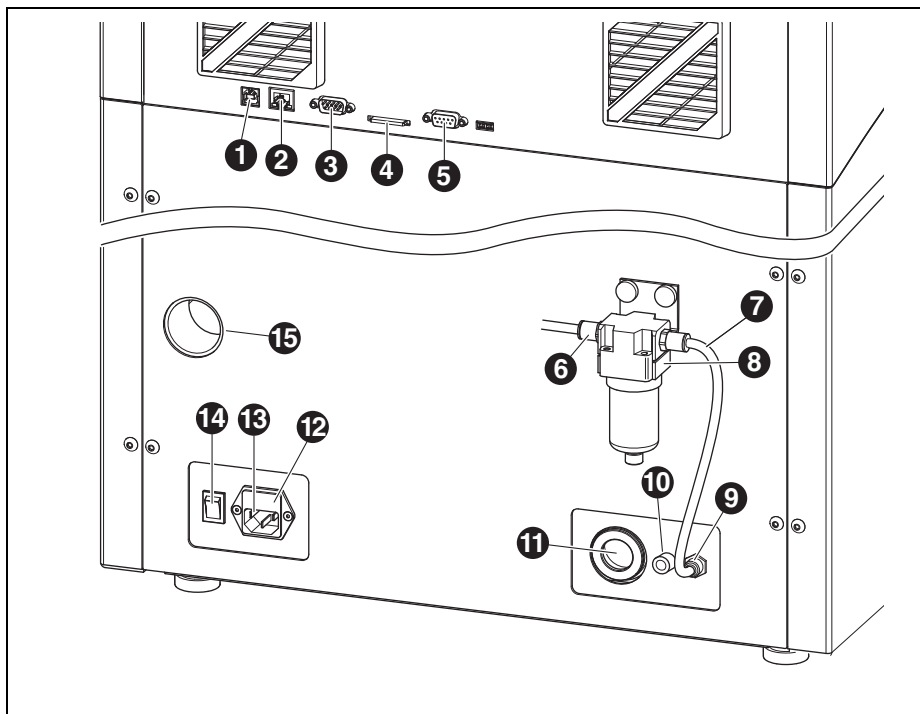

Fig. 2 Machine overview, rear
- ▷ Pull out the fuse compartment ([11] in Fig. 2 on page 49) below the mains plug.